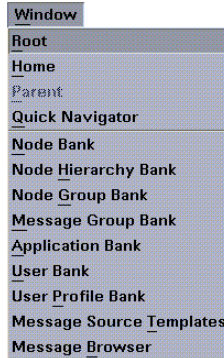

Figure 5-4 Window Pop-up Menu
1. On the menu bar of the desired screen, select **Window**. The Window pop-up menu appears (Figure 5-4 on page 5-10).
The Window pop-up menu appears, Figure 5-4 on page 5-10, giving you several options to view OVO groups that contain specific EMC groups and nodes.